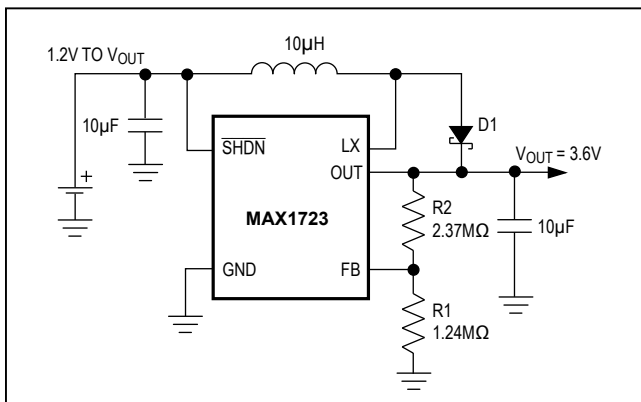
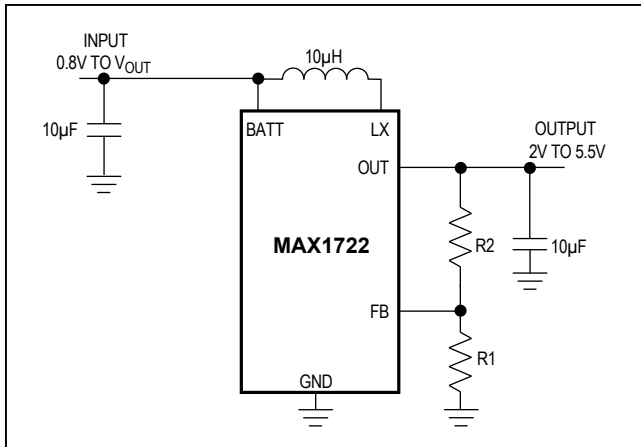
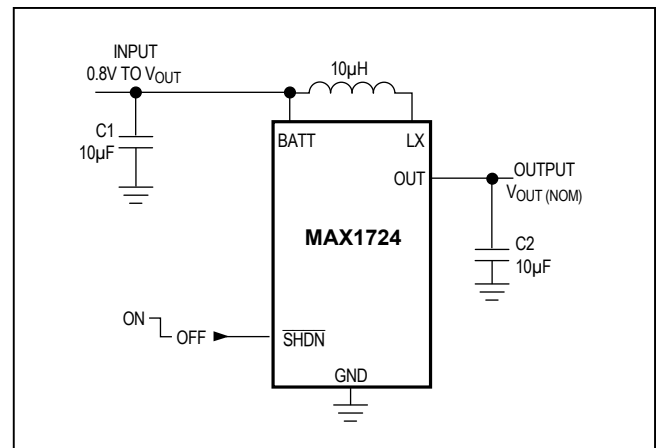

Figure 3. MAX1723 Single-Cell Operation
Figure 7. Adjustable Output Circuit
Figure 8. MAX1724 Standard Application Circuit
- Note 2:** Guaranteed with the addition of a Schottky MBR0520L external diode between LX and OUT when using the MAX1723 with only one cell, and assumes a 0.3V voltage drop across the Schottky diode (see Figure 3).
(Figure 3 (MAX1723), Figure 7 (MAX1722), Figure 8 (MAX1724), V_{BATT} = V_{IN} = 1.5V, L = 10µH, C_{IN} = 10µF, C_{OUT} = 10µF, T_A = +25°C, unless otherwise noted.)
lacks a BATT pin; therefore, this circuit is powered through the OUT pin. Adding a Schottky diode in parallel with the P-channel synchronous rectifier allows for startup voltages as low as 1.2V for the MAX1723 (Figure 3). The external Schottky diode is not needed for input voltages greater than 1.8V. Once started, the output maintains the load as the battery voltage decreases below the startup voltage.
The output voltage can be adjusted from 2V to 5.5V using external resistors R1 and R2 (Figure 7). Since FB leakage is 20nA (max), select feedback resistor R1 in the 100kΩ to 1MΩ range. Calculate R2 as follows: